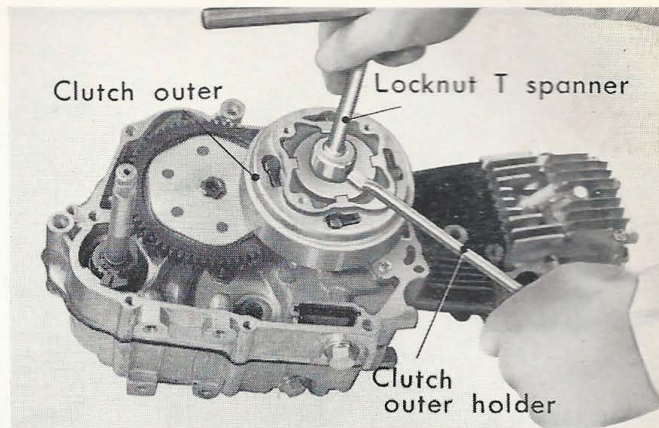

Figure 3-66. Removing clutch unit
- (1) Remove right crankcase cover.
- (2) Remove clutch outer cover.
- (3) Unlock the 14mm lock washer, remove the 14mm lock nut and the clutch can be removed as a complete unit.
- (4) The work of disassembling the clutch unit can be simplified by the use of special tools. (Fig. 3-66)